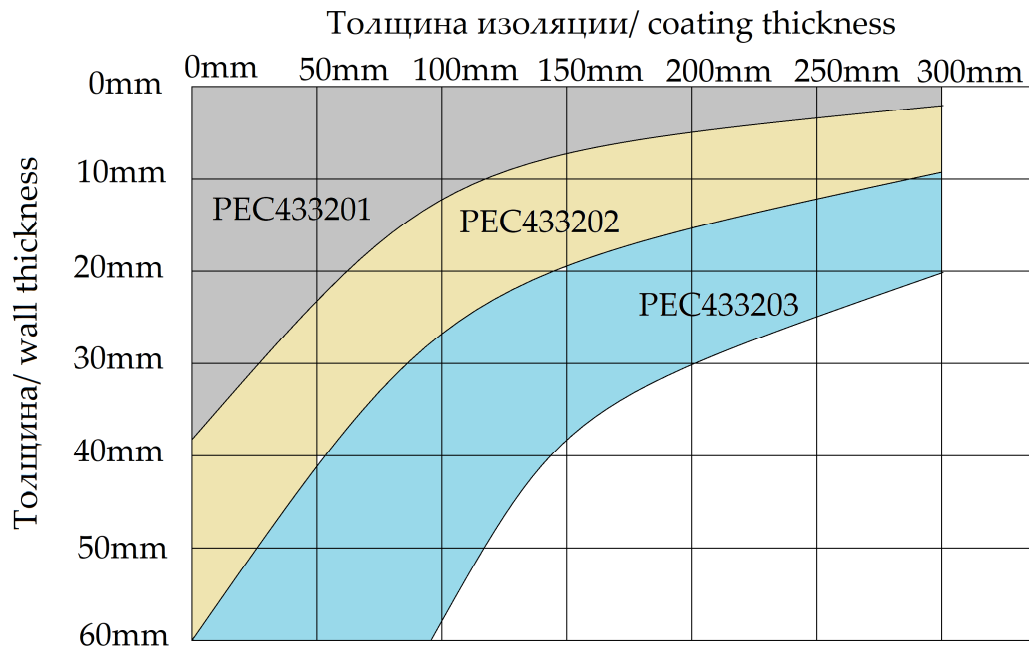

Figure 43. Diagram for sensor selection, for aluminum casing or for option without casing
Figures 43 and 44 show a diagram for sensor selection depending on the above parameters.
*For example:* suppose you want to test a pipe with 10 mm wall thickness, 100 mm thick insulation and aluminum casing. Then, according to Figure 43, you shall use sensor PEC433201. The transducers PEC433202 and PEC433203 will also work in this case, however, their selection will not be reasonable as PEC433202 and PEC433203 have the greater area where the Device measures the average thickness.